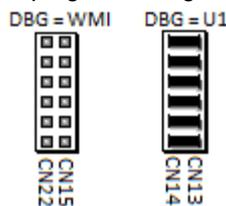

Figure 6: Jumpers between CN13 and CN14 pins – selects STM32F407IGT6/STM32F429IIT6 MCU to program/debug
1. Ensure jumpers on Koala EVM are installed. Required jumper installation is illustrated in Figure 6; jumpers between CN13 and CN14 pins selects MCU to program/debug.